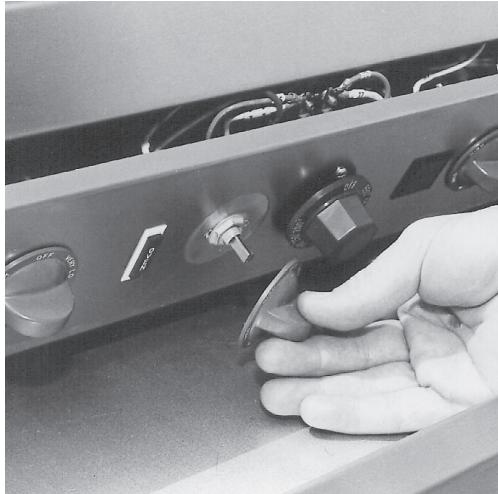

Fig. 6
2. Pull switch knob off of the control manifold cover. (Fig. 6)